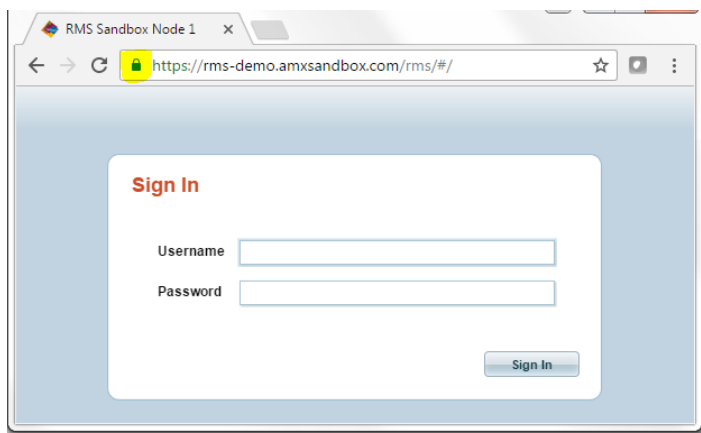

FIG. 459 RMS Enterprise Sign-In Screen - RMS web server using HTTPS
1. Browse to the RMS web server using HTTPS and click on the padlock icon (left of "https://" in the address bar - FIG. 459):